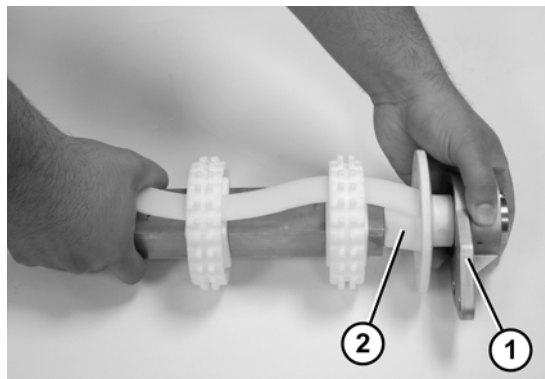

Figure 55
9. Slide the 3 hole flange with bearing (**Figure 55, item 1**) and flanged puck (**Figure 55, item 2**) off the drive spindle.